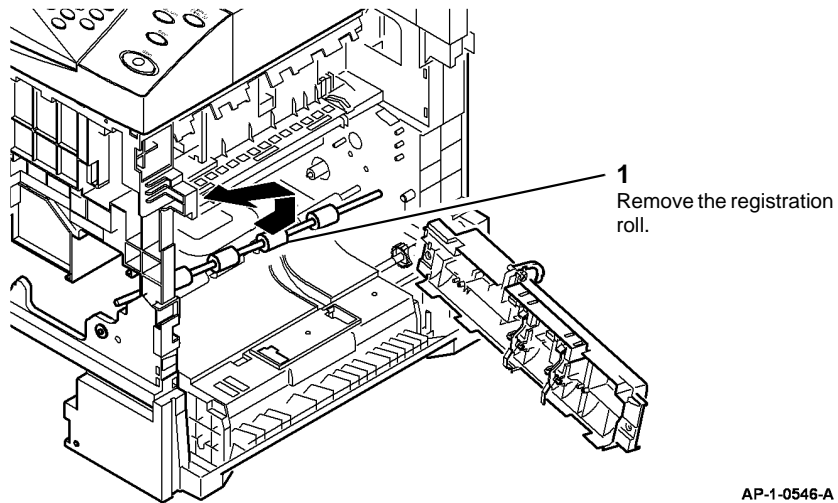

Figure 7 Registration Roll Removal
16. Remove the registration roll, Figure 7.